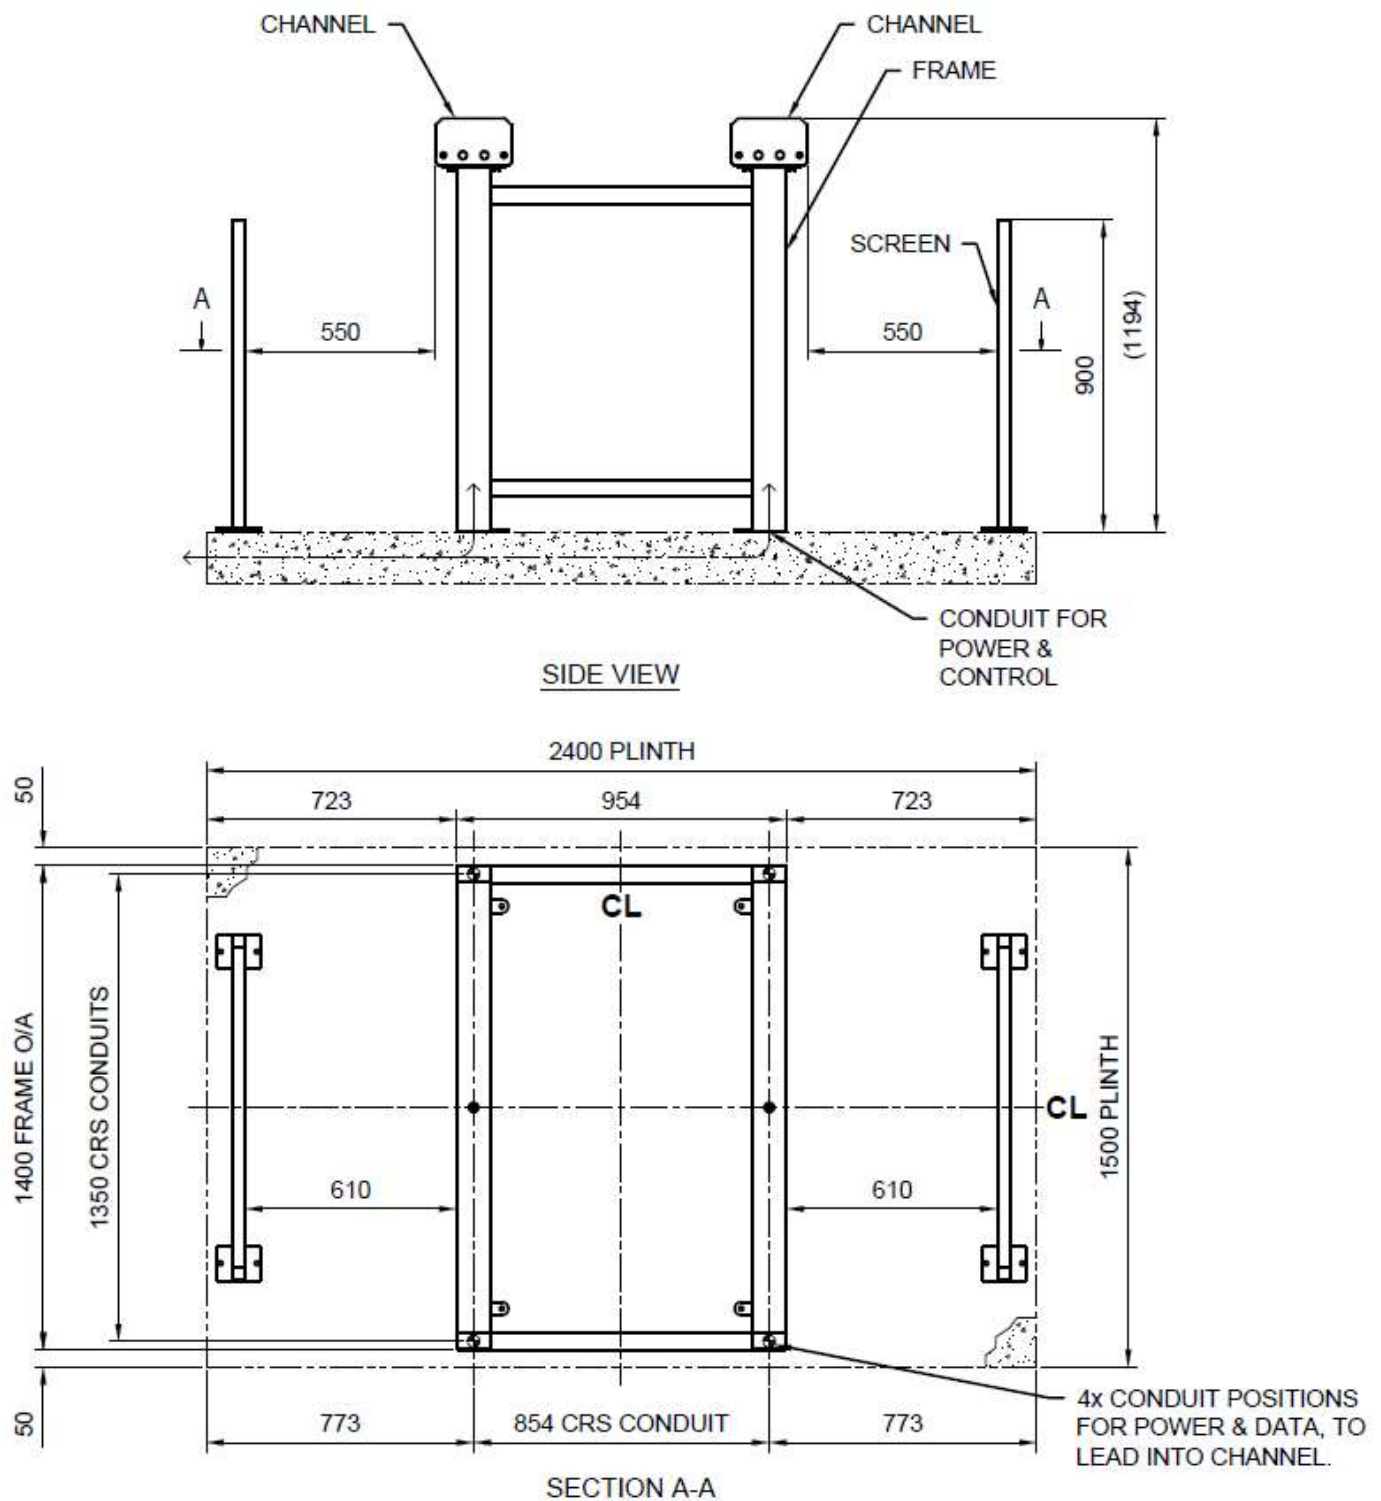

Figure 16: Double Turnstile Plinth
- 5.6. Place the frame as shown on drawing *Figure 16: Double Turnstile Plinth* with the frame centre on the plinth. Bolt down the frame and comb using the 4x off holes.
- 5.8. Place the screens 610mm away from the uprights of the frame. The screens will be 550mm away from the end of the top channels. Bolt down the screen. See *Figure 16: Double Turnstile Plinth*.
- Double Turnstile Specification: 1500mm long x 2400mm wide x 125mm deep, 15MPa strength concrete. (See *Figure 16: Double Turnstile Plinth*)